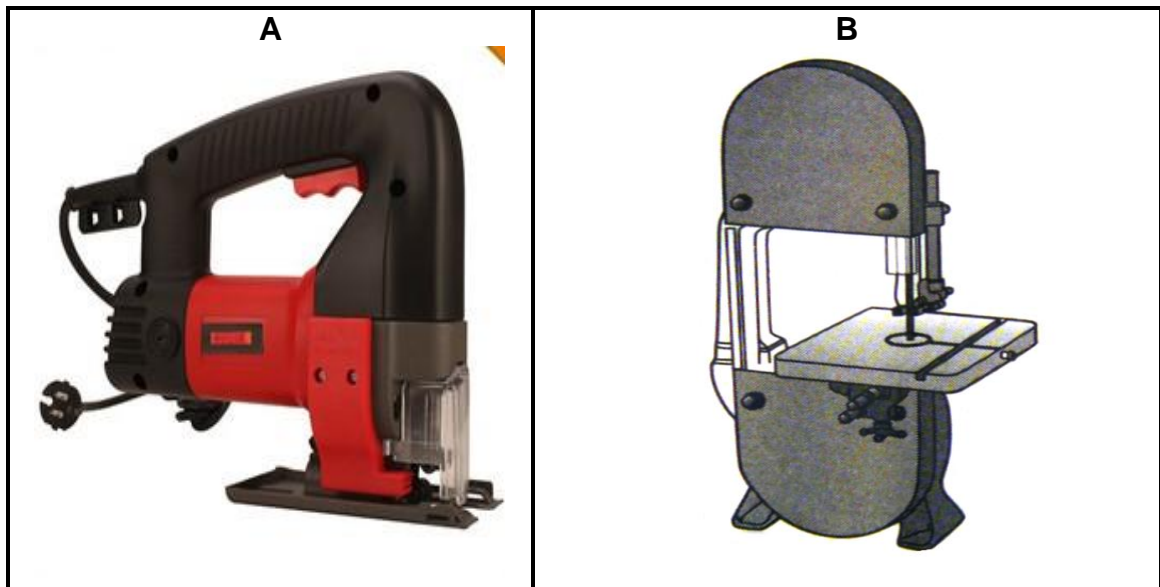

FIGURE 4.2
4.2 FIGURE 4.2 below shows two woodworking machines. Study the pictures and answer the questions that follow.